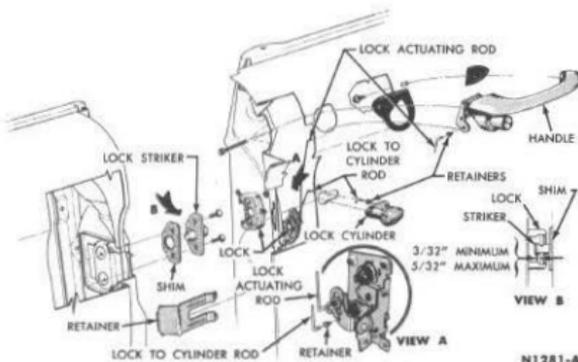

FIG. 109—Door Lock and Striker—Model 76
3. Disconnect the door lock remote control link, the lock actuating rod, and the lock control to cylinder rod at the lock (Fig. 109). Remove the knob from the push button rod.
The striker pin can be adjusted laterally and vertically as well as fore-and-aft. The striker should not be adjusted to correct door sag. The striker should be shimmed, if necessary, to get the clearance shown in Figure 109. To check this clearance, clean the lock jaws and the striker, then apply a thin layer of dark grease to the striker. As the door is closed and opened, a measurable pattern will result. Move the striker laterally to provide a flush fit at the door and the quarter panel.